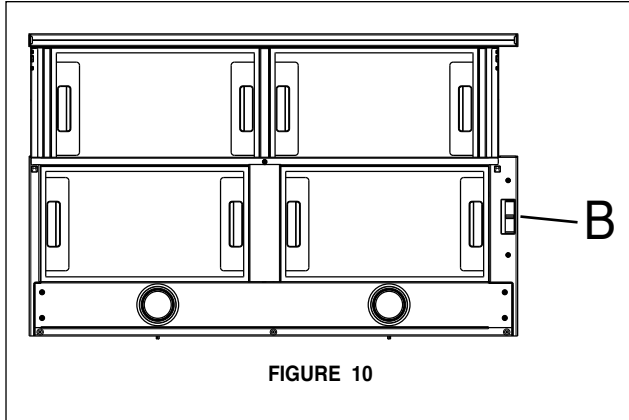

FIGURE 10
**B** in **FIGURE 10** shows the speed control switch for the blower. Moving the switch to the 1 Position turns the blower on LOW. Moving the switch to the 2 Position turns the blower on MEDIUM. Moving the switch to the 3 Position turns the blower on HIGH. Moving the switch to the 0 Position turns the blower off.